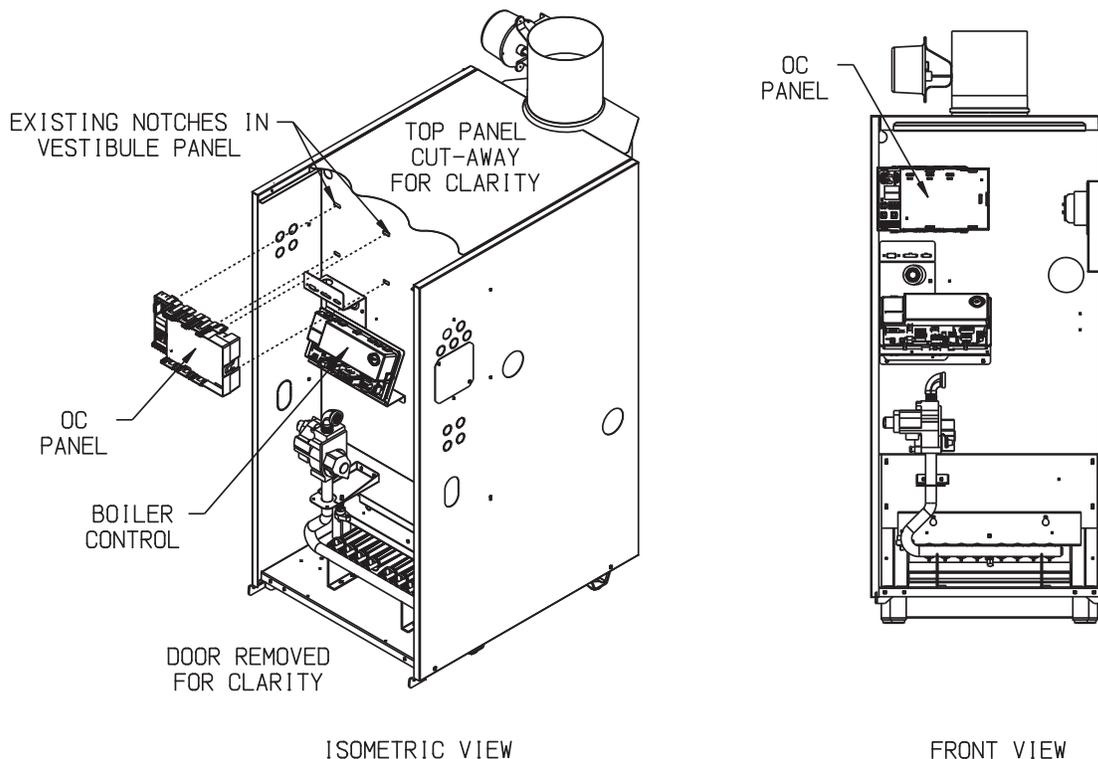

FIGURE 2: LOCATING THE OC PANEL ON AWR BOILERS
3. Hook the bottom tabs of the OC Panel into the lower set of notches on the vestibule panel found just above the boiler control mounting bracket then press the tabs located on top of the OC Panel into the upper set of notches on the vestibule panel until they snap into place. See Figure 2.